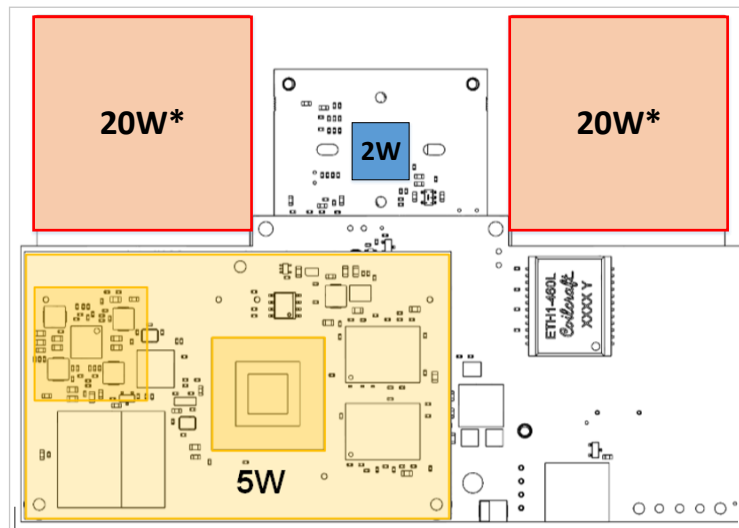

Figure 4-1 Hot Spots of the Sentis3D-M530 (Bottom View)
- LIM modules: each LIM module produces up to 20W of dissipation power that must be cooled mounting a heatsink/enclosure and a gap pad on the bottom of the module (red areas in Figure 4-1). The power is valid only during integration phase. Based on integration time and frame-rate the average power may be less.
- CM-i.MX6Q: the processor module produces up to 5W of dissipation power. The main heat sources are the i.MX6Q processor (left dark region in orange area in Figure 4-1) and the PMIC (right dark region in orange area in Figure 4-1).